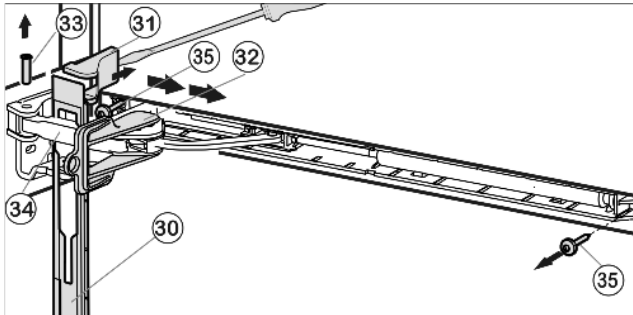

Fig. 12
- ▶ Slide the faceplate forwards over the soft stop bracket *Fig. 12 (34)* in the direction of the appliance.
- ▶ Snap the safety lock *Fig. 12 (32)* into the oblong hole
- ▶ Using a screwdriver, lift off the cover *Fig. 12 (31)* from the outside and remove it in an outward direction.
- ▶ Press the pin *Fig. 12 (33)* out from underneath.
- ▶ Press the soft stop bracket *Fig. 12 (34)* towards the door.
- ▶ Remove the faceplate *Fig. 12 (30)*.
- ▶ Unscrew the soft stop unit (2 Torx 15) *Fig. 12 (35)*.